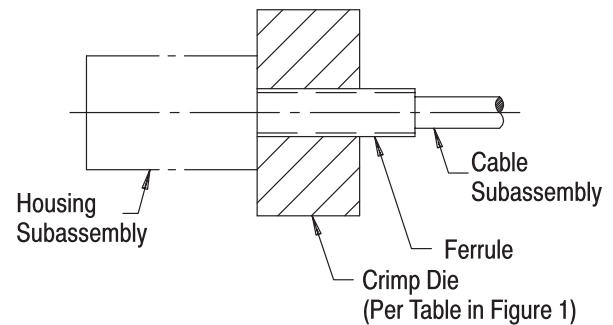

Figure 6
2.3. Crimp the Cable to the Inner Sleeve (Figure 6)